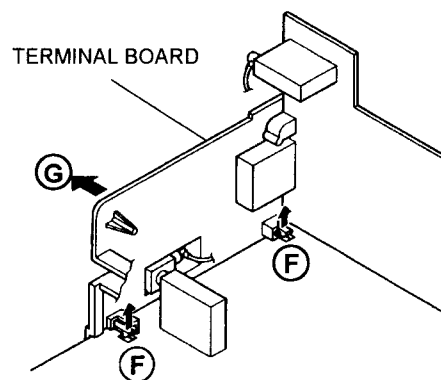
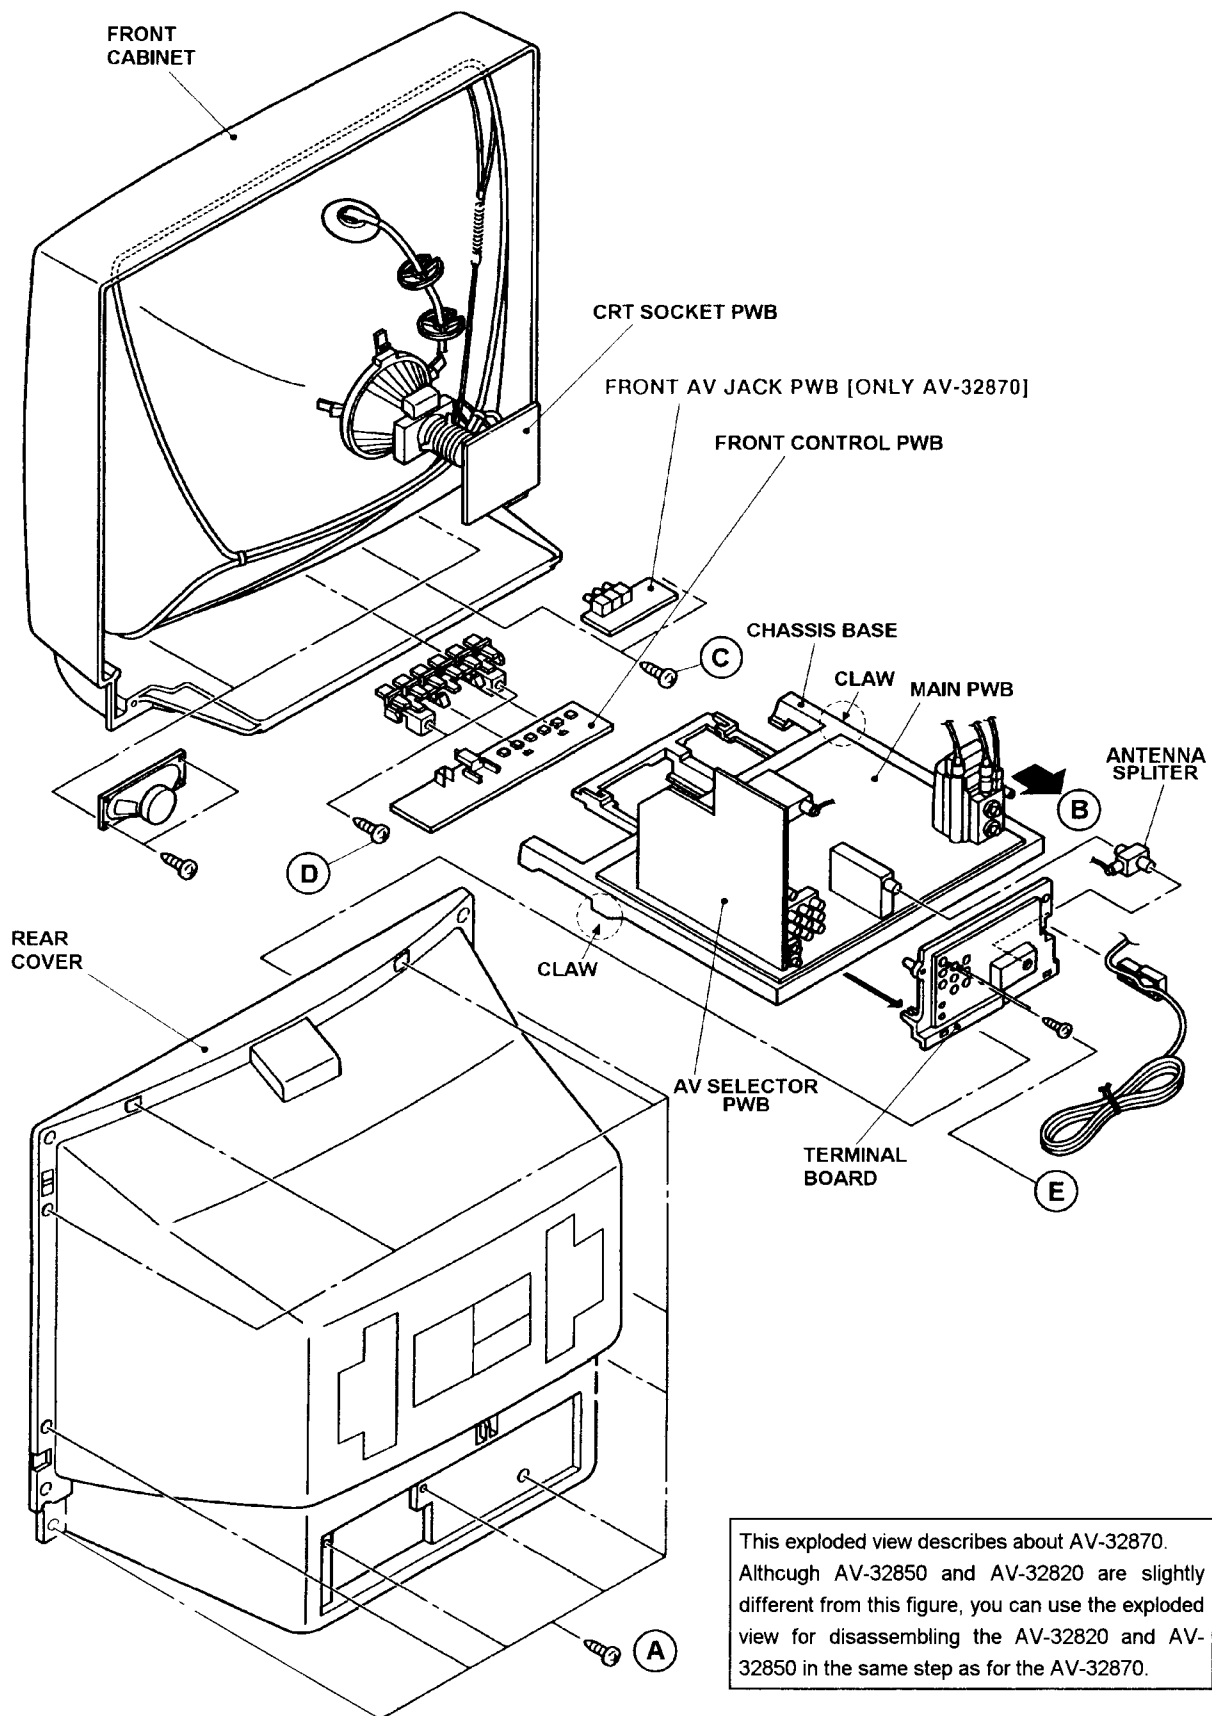

Fig. 1
Fig. 2
2. Remove the 11 screws marked **A** as shown in Fig.2.
2. Draw the chassis backward along the rail in the arrow direction marked **B** as shown in the Fig.2.
1. Remove the 2 screws marked **C** as shown in Fig.2.
1. Remove the 2 screws marked **D** as shown in Fig.2.
1. Remove the 2 screws marked **E** as shown in Fig.2.
2. After removing the claw marked **F** in the direction of arrow mark as shown in Fig.1.
3. When you pull out the AV TERMINAL BOARD in the direction of arrow marked **G** as shown in Fig.1, it can be removed.
(4) System constant check and setting <ol style="list-style-type: none"> <li>1) Simultaneously press the DISPLAY key and VIDEO STATUS key of the remote control unit.</li> <li>2) The SERVICE MENU screen of Fig.1 is displayed.</li> <li>3) While the SERVICE MENU is displayed, again simultaneously press the DISPLAY and VIDEO STATUS keys to display the Fig.2 SYSTEM CONSTANT screen.</li> <li>4) Refer to the SYSTEM CONSTANT table and check the setting items. Where these differ, select the setting item with the MENU UP / DOWN key and adjust the setting with the MENU LEFT / RIGHT keys. (The letters of the selected item are displayed in yellow.)</li> <li>5) After adjusting, release the MENU LEFT / RIGHT key to store the setting value.</li> <li>6) Press the EXIT key twice to return the normal screen.</li> </ol>	 <p>Fig.1</p>
(6) User settings Check the user setting items according to Table 2. Where these do not agree, refer to the OPERATING INSTRUCTIONS (USER' S GUIDE) and set the items as described.	 <p>Fig.2</p>
(7) SERVICE MENU setting Verify what to set in the SERVICE MENU, and set whatever is necessary. (Fig.1) refer to the SERVICE ADJUSTMENT for setting.